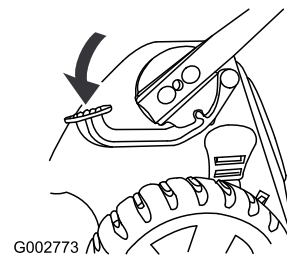

Figure 49
- Step on the foot pedal and hold it down (Figure 49).